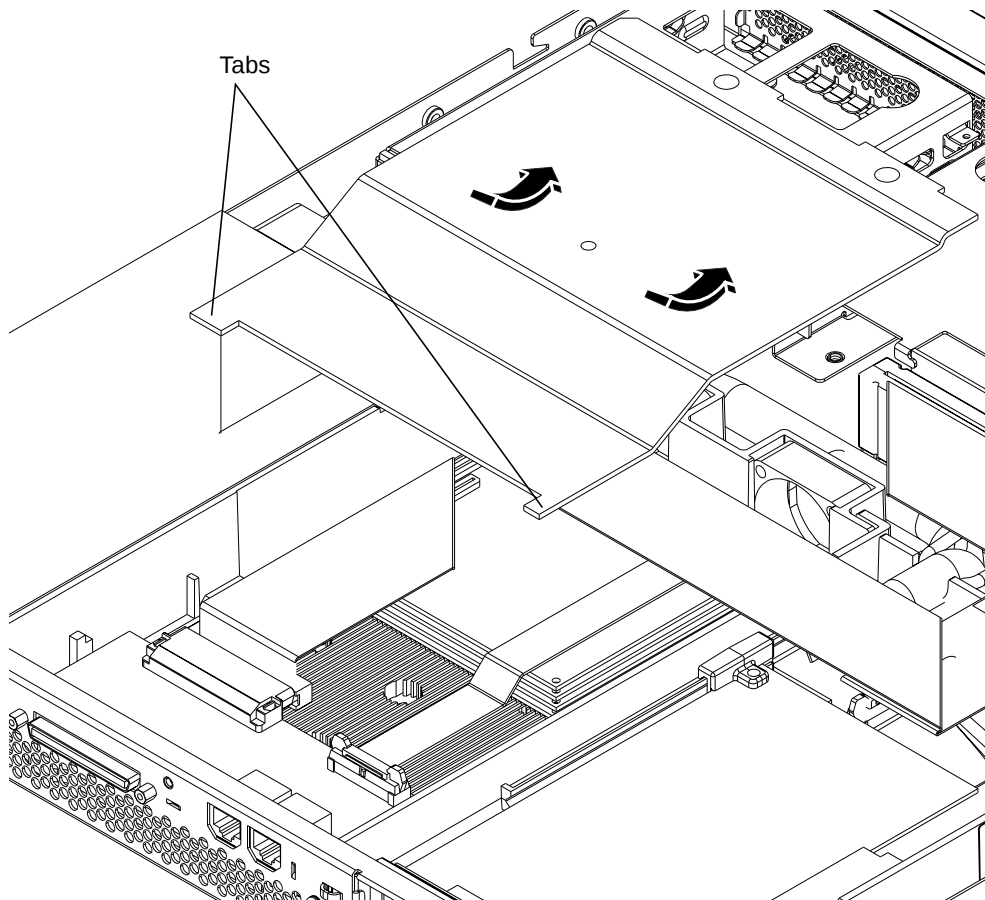

FIGURE B-1 Lifting out the Processor Cover
2. Lift out the processor cover located in the rear center of the unit (see FIGURE B-1).